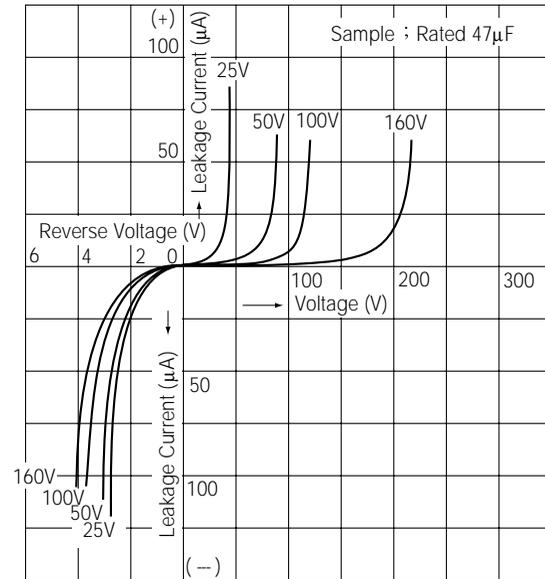

Fig. 2-2 V - I Characteristics (Voltage - Current Characteristics)
The relationship between the voltage and leakage current when voltage is applied to the aluminum electrolytic capacitor is shown in Fig. 2-2. From Fig. 2-2, the following can be said:
As (Fig. 2-2 V-I Characteristics) shows, the aluminum electrolytic capacitor does not have withstand voltage in the reverse direction. Therefore if the capacitor is used in an AC circuit, an electric current flow which is larger than that calculated from  $I = \omega CE$ . If the internal resistance of the aluminum electrolytic capacitor is labeled  $R (\Omega)$ , heat will generate due to the wattage loss  $W = I^2R$  (W) according to the current. The degree of heat is large because the internal resistance of a capacitor is large; thus the pressure relief vent is activated when heat generates and causes the electrolyte to evaporate, causing the internal pressure to rise. Even bipolar capacitors (non-polar), cannot use it for continuous AC application in addition to above.